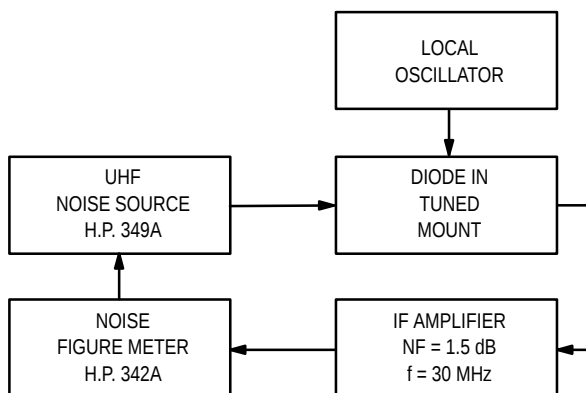

Figure 5. Noise Figure Test Circuit
Note 2 – Noise figure measured with diode under test in tuned diode mount using UHF noise source and local oscillator (LO) frequency of 1.0 GHz. The LO power is adjusted for 1.0 mW. IF amplifier NF = 1.5 dB, $f = 30$ MHz, see Figure 5.